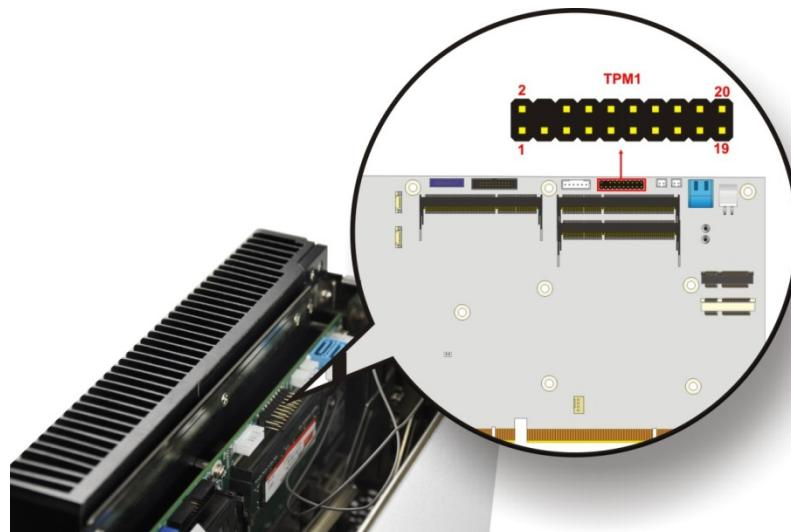

Figure 3-27: TPM Connector Location
**Step 2:** Locate the TPM connector. The location of the TPM connector is shown in **Figure 3-27**.
**Step 4:** Connect the iDP module to the DisplayPort connector on the motherboard. See **Figure 3-27.**